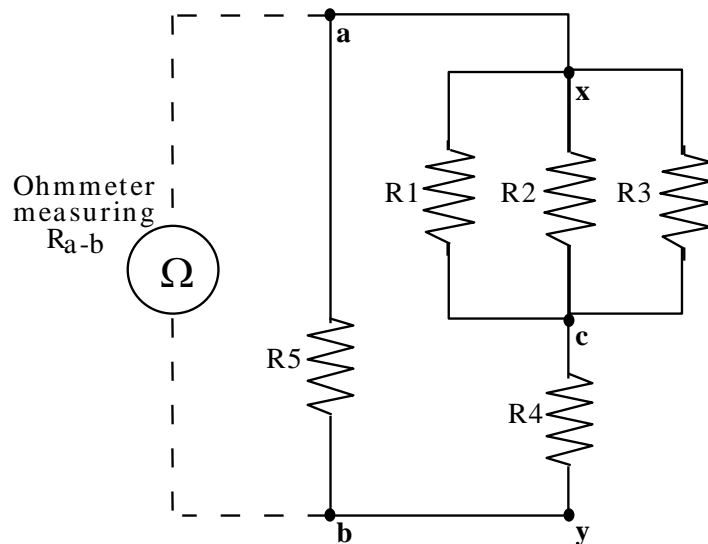

Figure 3. Compound resistor network
A challenging exercise is presented in Figure 3. Try to work on your own to analyze its equivalent resistance. Your first step should be to copy the actual resistance values directly onto the diagram. Then try to break down the problem into simpler parts.
From your knowledge of the rules for series and parallel resistor equivalents, compute the equivalent resistance for the network shown in Figure 3 from point **a** to point **b**. Show your work.
- Clear off your *circuit* board and construct the circuit in Figure 3.
Prediction	<p>Without modifying the circuit in Figure 3, what would the resistance be if you had connected your DMM probes at points x and y?</p> <p>_____</p> <p>_____</p> <p style="text-align: center;"><math>R_{x-y} = \text{_____} [\Omega]</math></p>